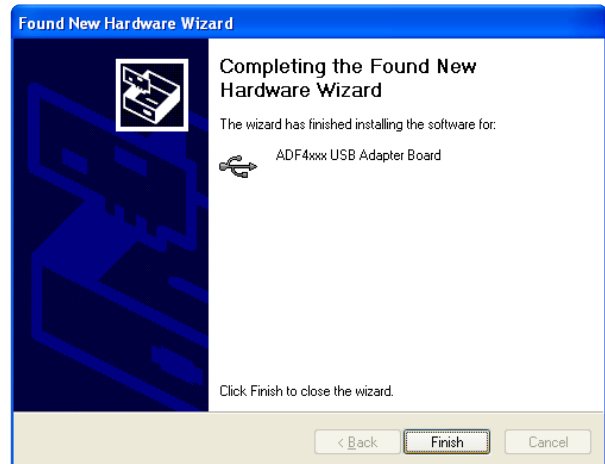

Figure 17. Windows XP USB Adapter Board Driver Installation, Complete Installation
2. Connect your SDP board (black) or USB adapter board (green) by USB. If you are using an SDP board, the drivers install automatically, and you are ready to run the software. If you are using an USB adapter board on Windows XP, follow the steps in the Windows XP Driver Installation Guide section (see Figure 14 to Figure 17).